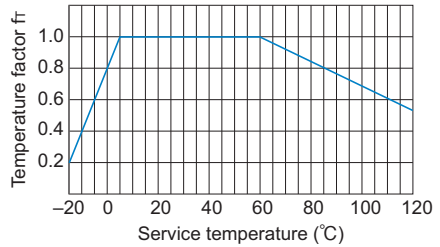

Fig.2 Temperature factor
If the temperature of the spline nut exceeds the normal temperature range, the seizure resistance of the nut and the strength of the material will decrease. Therefore, it is necessary to multiply the dynamic permissible torque (T) by the corresponding temperature factor indicated in Fig.2.
- fT : Temperature factor (see Fig.2)